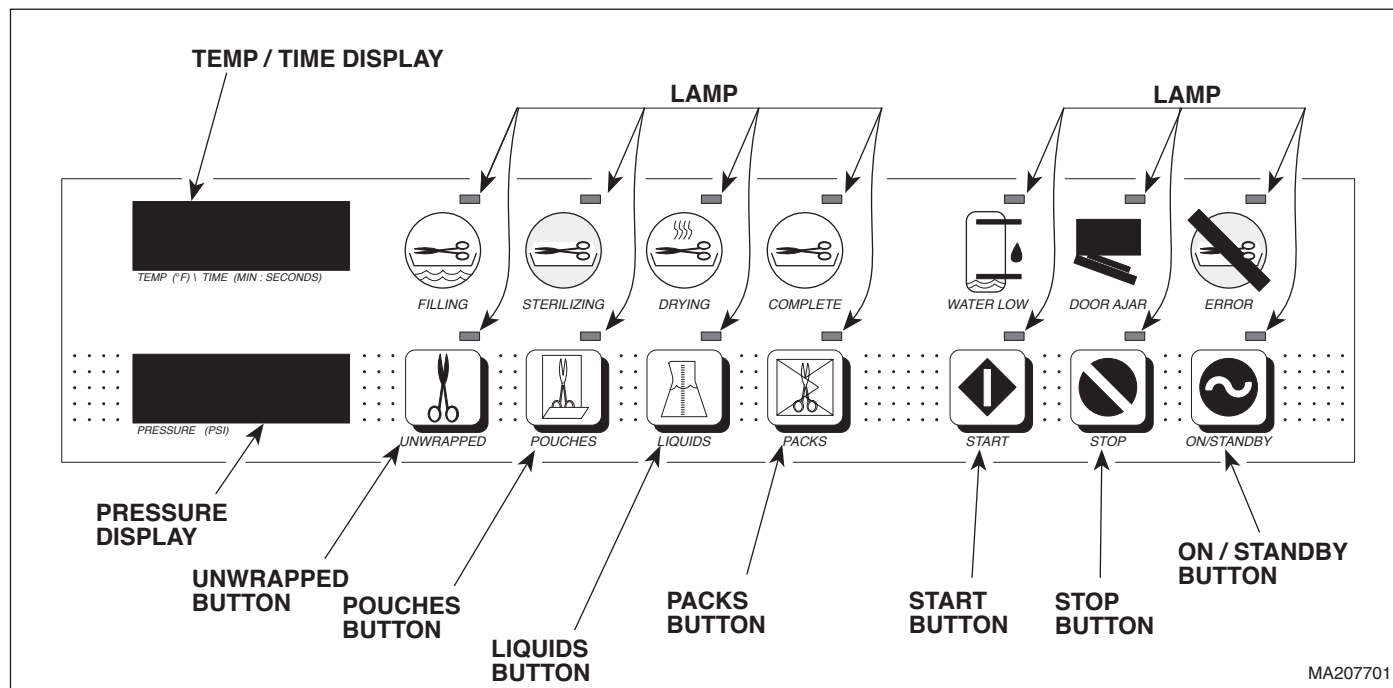

Figure 2-1. Display PC Board Lamp / Display / Button Check
- (1) Place the sterilizer on a level surface.
- (2) Remove right hand side panel (Refer to para 4.3).
- (3) Plug the sterilizer into a properly grounded receptacle, capable of supplying correct and adequate power to operate this sterilizer.
- (4) Open sterilizer door.
- (5) Press and hold down the LIQUIDS and PACKS buttons simultaneously while connecting the power cord to the sterilizer (See Figure 2-1). Release the LIQUIDS and PACKS buttons.
- (6) Observe the display PC board lamps. In a left to right sequence, each lamp on the display PC board should individually illuminate and then extinguish.
- (7) Press and release the UNWRAPPED, POUCHES, LIQUIDS, PACKS, START, STOP, and ON/STANDBY buttons one at a time and in this order.
- (14) Press the ON/STANDBY button, followed by the UNWRAPPED button, followed by the START button (See Figure 2-1).
- (16) Fill condensing tank with distilled water.
- (17) Observe. The WATER LOW lamp should extinguish, the DOOR AJAR lamp should begin to flash, and the beeper signal should continue to sound. Go to step 27.
- (18) Close the sterilizer door.
- (19) Press the ON/STANDBY button, followed by the UNWRAPPED button, followed by the START button (See Figure 2-1).
- (20) Observe. The FILLING lamp should illuminate. After approximately 5 minutes, the FILLING lamp should extinguish, the WATER LOW lamp should illuminate and a beeper signal should sound.
- (21) Press the STOP button followed by the ON/STANDBY button.
- (22) Fill condensing tank with distilled water.
- (23) Open the sterilizer door.
- (24) Press the ON/STANDBY button, followed by the UNWRAPPED button, followed by the START button (see Figure 2-1).
- (25) Observe. The DOOR AJAR lamp should begin to flash, and the beeper signal should start to sound. Go to step 27.
- (26) Close the sterilizer door.
- (27) Observe. The DOOR AJAR lamp should extinguish and the beeper sound should stop. The FILLING lamp should illuminate. After 30 - 90 seconds, the FILLING lamp should extinguish and the STERILIZING lamp should illuminate. Should begin to hear water boiling in the pressure vessel and steam and air releasing through the bellows assembly.
- (28) Observe. At 205 °F (96°C), should begin to hear the bellows assembly close. At approximately 215 °F (102 °C), should hear the bellows assembly close completely (hissing sound stops). The PRESSURE (PSI) display should begin to display pressure.
- (29) When the "heat up" portion of the cycle is complete and the elapsed time is being counted down on the display PC board, compare the pressure displayed on the PRESSURE (PSI) display to the pressure displayed on the Pressure Gauge Test Harness. The two pressures should agree with each other within ± 0.5 psi (3.5 kPa).
- (30) Observe. When the time elapsed on the TEMP (°F)/TIME (MIN : SECONDS) display reaches zero, the vent solenoid should energize. Should hear steam and air venting into the condensing coil. The TEMP (°F)/TIME (MIN : SECONDS) display should show the temperature in the pressure vessel decreasing and the PRESSURE (PSI) display should show the pressure in the pressure vessel decreasing. When the pressure drops to approximately 0.7 psi (5 kPa) on the PRESSURE (PSI) display, there should be a 35 second pause; then a series of five beeper signals should sound and the pulse solenoid should energize. The sterilizer door should open, but only to the first door stop.
- (31) Stop the sterilizer from proceeding into the drying portion of the cycle by pressing the STOP button.